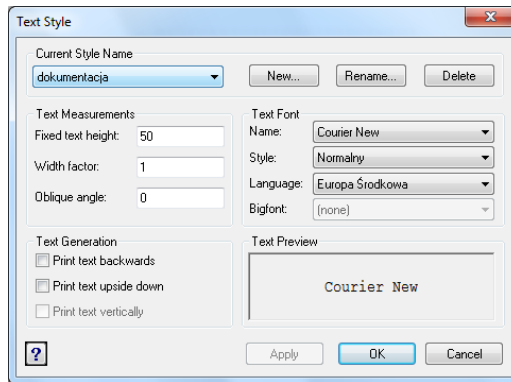

Fig. 50 – Text Style dialog box
- G** — **text style**; the standard style setting is **documentation** (Fig. 50),